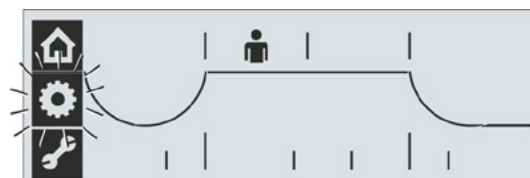

Fig. 1: Select End position menu
1. Select 'End position' menu: Turn Drive Controller until the frame of the gear wheel symbol starts to flash (fig. 1). Gear wheel symbol is shown as inverted representation.